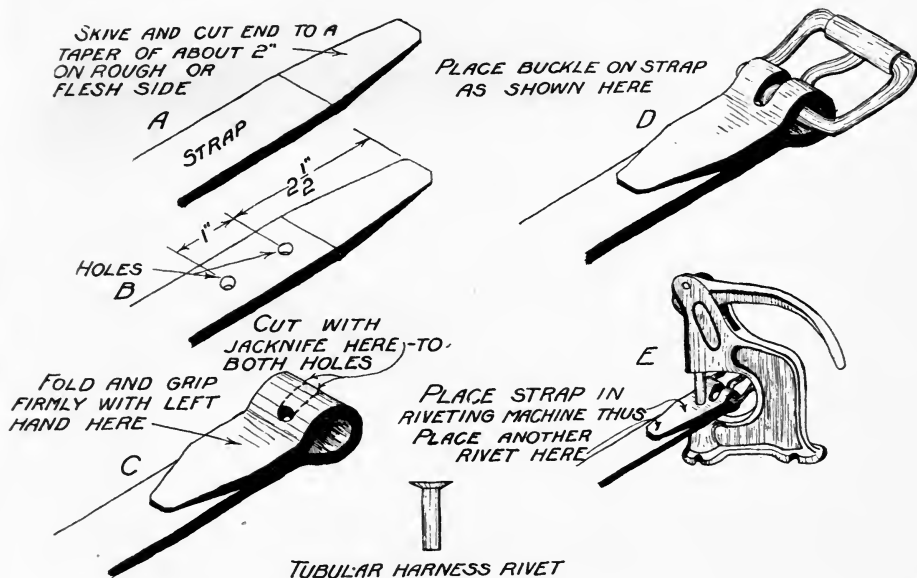

Fig. 17. Attaching a Buckle with Rivets.
2. With a straight or round knife or jack knife taper the end as shown at A in Fig. 17.
3. Punch two holes with the belt punch about 1" apart, the first one about  $2\frac{1}{2}$ " from the end of the strap. B in Fig. 17.
4. Fold the end back so that the holes line up and hold firmly with the left hand; then cut an opening into the folded end to receive the tongue of the buckle as shown at C in Fig. 17.
5. Place the buckle on the strap as shown at D in Fig. 17.
6. Drop a tubular harness rivet in the riveting machine with the head down; place the strap in the machine with the cut end up as shown at E in Fig. 17, and drive the rivet in place. The first rivet should be placed close to the hole.
7. Place another rivet near the end of the strap as indicated at E in Fig. 17. In placing the second rivet don't let the buckle end of the strap drop down or the end of the strap will not fit tight against the strap in the finished job.